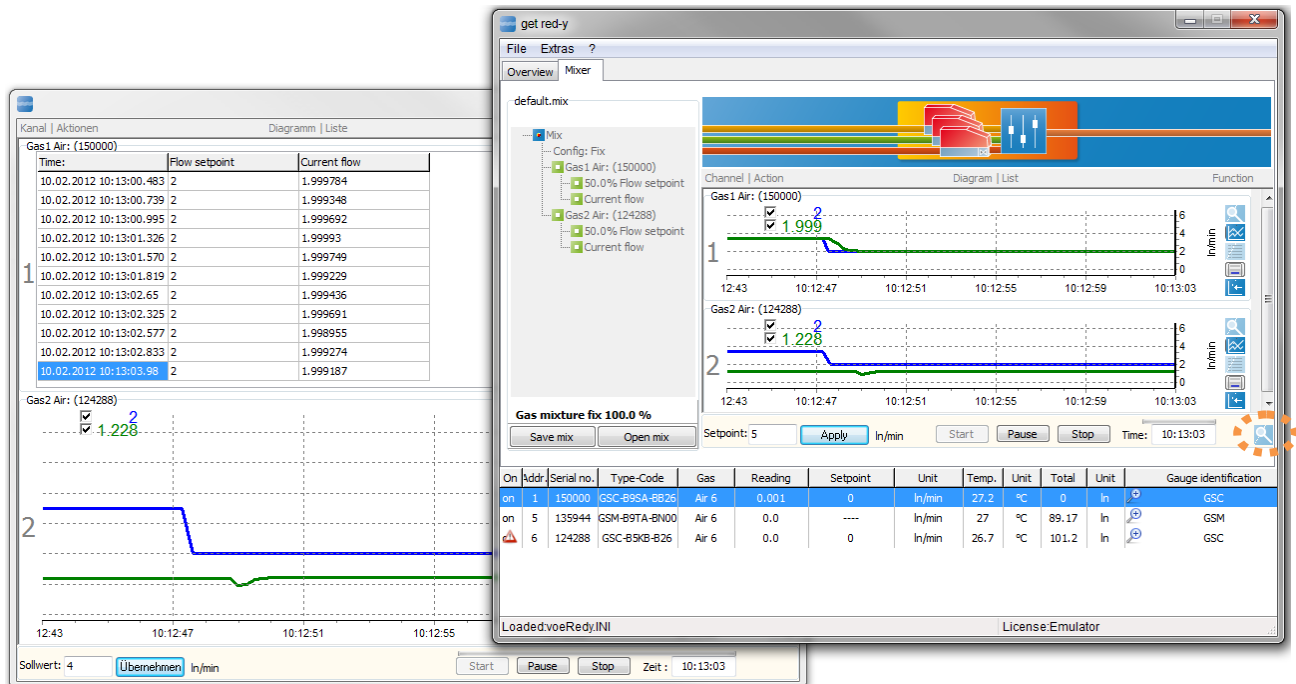

Figure 50: Show the fix mode regulation in several data views.
- E. All Charts in one window:** All gases can be visualized in one window. This window can also be viewed on a different monitor. This option is shown in Figure 50. A tabular and graphical representation can be displayed simultaneously for the same channel.